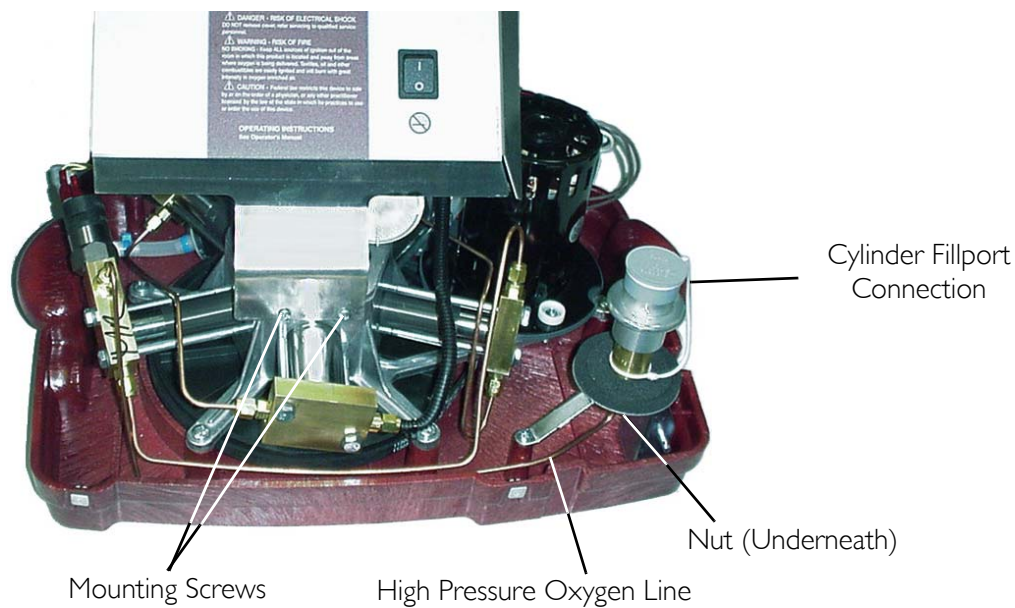

FIGURE 12.3 Timing Belt Replacement
9. Using the $\frac{7}{16}$ open ended wrench, loosen the nut and disconnect the high pressure oxygen line from the cylinder fillport connector (FIGURE 12.3).
10. Loosen the two screws that secure the bottom of the control panel in place (FIGURE 12.3).
15. Secure the bottom of the control panel to the pump assembly with the two mounting screws (FIGURE 12.3).
16. Connect the high pressure oxygen line to the cylinder fillport connector. Securely tighten using the $\frac{7}{16}$ open ended wrench (FIGURE 12.3).